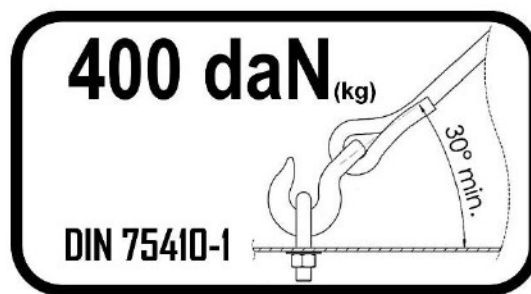

Fig. 2. Loading rules for mounting brackets
- ✓ The load shall be secured from moving. If it is attached by mounting brackets, you should follow the rules depicted on Fig. 2. The weight on the mounting bracket should not exceed 400 kg for vehicles with GVWR not exceeding 3.5 t.